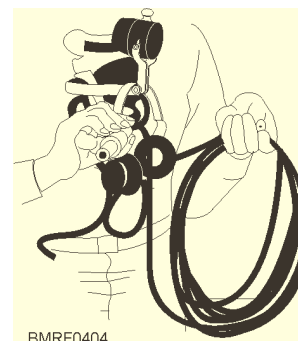

Figure 4-4.—Coiling the lead cord.
3. Coil the lead cord, starting from the end at the phone. Coil the lead in a clockwise direction, holding the loops in one hand, as shown in figure 4-4. The loops should be 8 to 10 inches across, depending on the size of the space where the phones are stowed. When you are coiling the lead, be careful not to bang the plug against the bulkhead or deck.